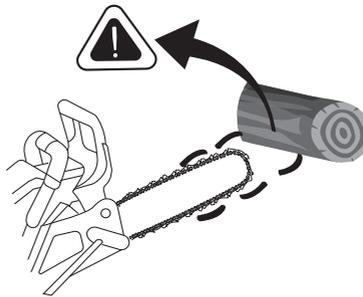

Fig. 3
- DO NOT let the tip of the guide bar touch any object, such as a log, branch, ground or other obstruction. Remove or avoid any obstructions that might impact the tip of the guide bar while cutting (Fig.3).